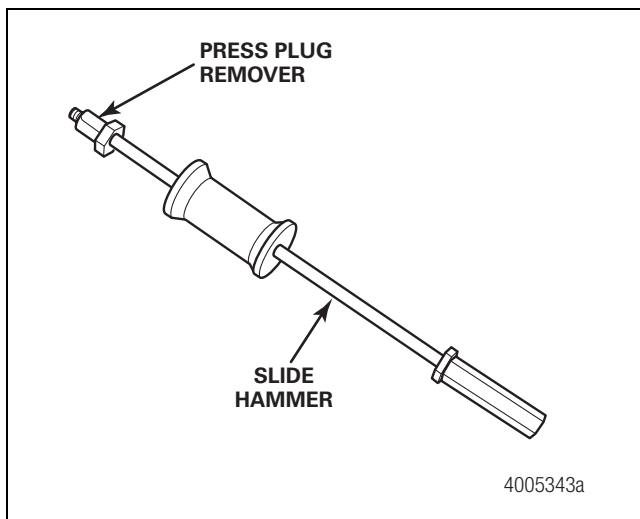

Figure 3.23
- J. Use a slide hammer fitted with the press plug removal tool to remove the leaking press plug. Use care not to score the inside diameter of the spindle bore. Figure 3.23.